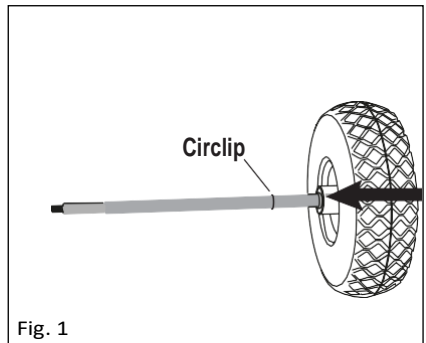

Fig. 1
1. Slide a wheel (12) with valve stem facing out onto the axle (16) (fig. 1).
**Note:** Slide the first wheel on the circlip side of the axle (16).